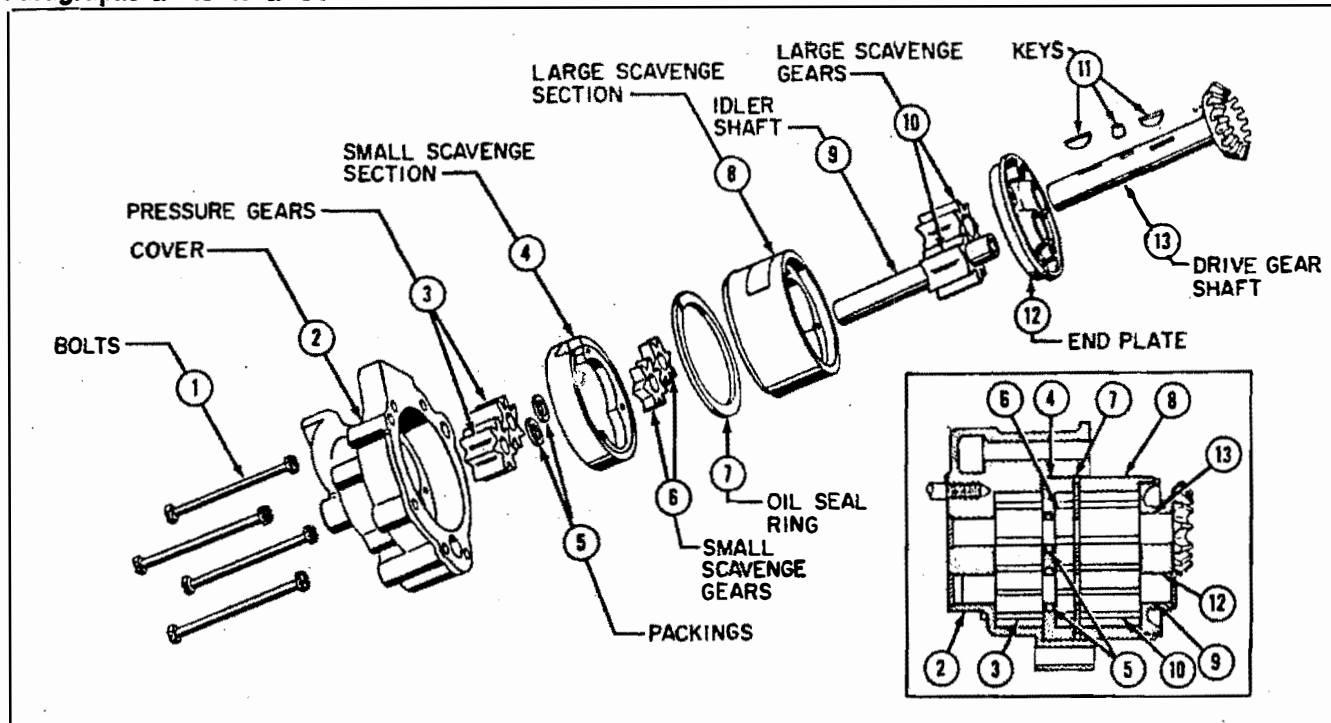

Figure 2-29. Exploded View of Oil Pump
**2-45. GENERAL.** Oil is circulated through the engine by the three section gear pump which consists of one pressure and two scavenge sections [Figure 2-29]. The pump is located in the right side of the rear case. Oil from the tank enters the oil pump through a port in the pump cover. The oil is then directed to the pressure stage of the pump and from there flows under pressure to the